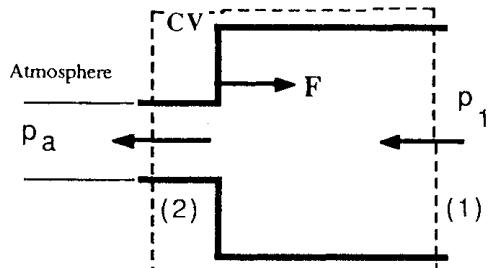

Fig. P3.42
- 3.42** A liquid of density  $\rho$  flows through the sudden contraction in Fig. P3.42 and exits to the atmosphere. Assume uniform conditions ( $p_1$ ,  $V_1$ ,  $D_1$ ) at section 1 and ( $p_2$ ,  $V_2$ ,  $D_2$ ) at section 2. Find an expression for the force  $F$  exerted by the fluid on the contraction.